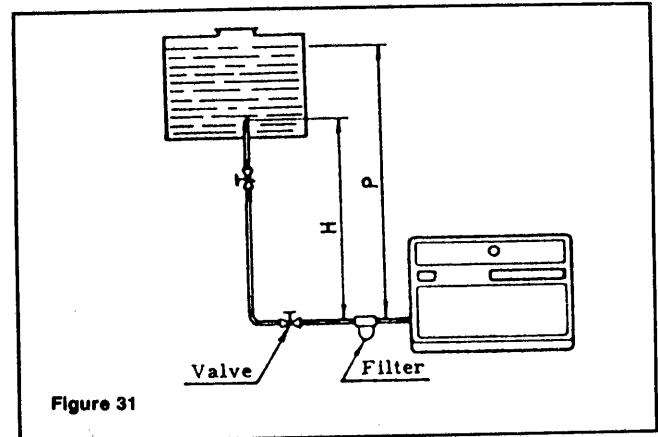

Figure 31
- ii) Attach the required piping to the pipe connector and to the oil tank. See Figure 31. Use heavy wall copper tubing in a continuous run with the exception of the installation of a filter and two fuel shutoff valves, one near the burner but before the filter and one near the tank. Size tubing from Table 4.
Referring to Figure 31, dimension P must not exceed 13 ft.